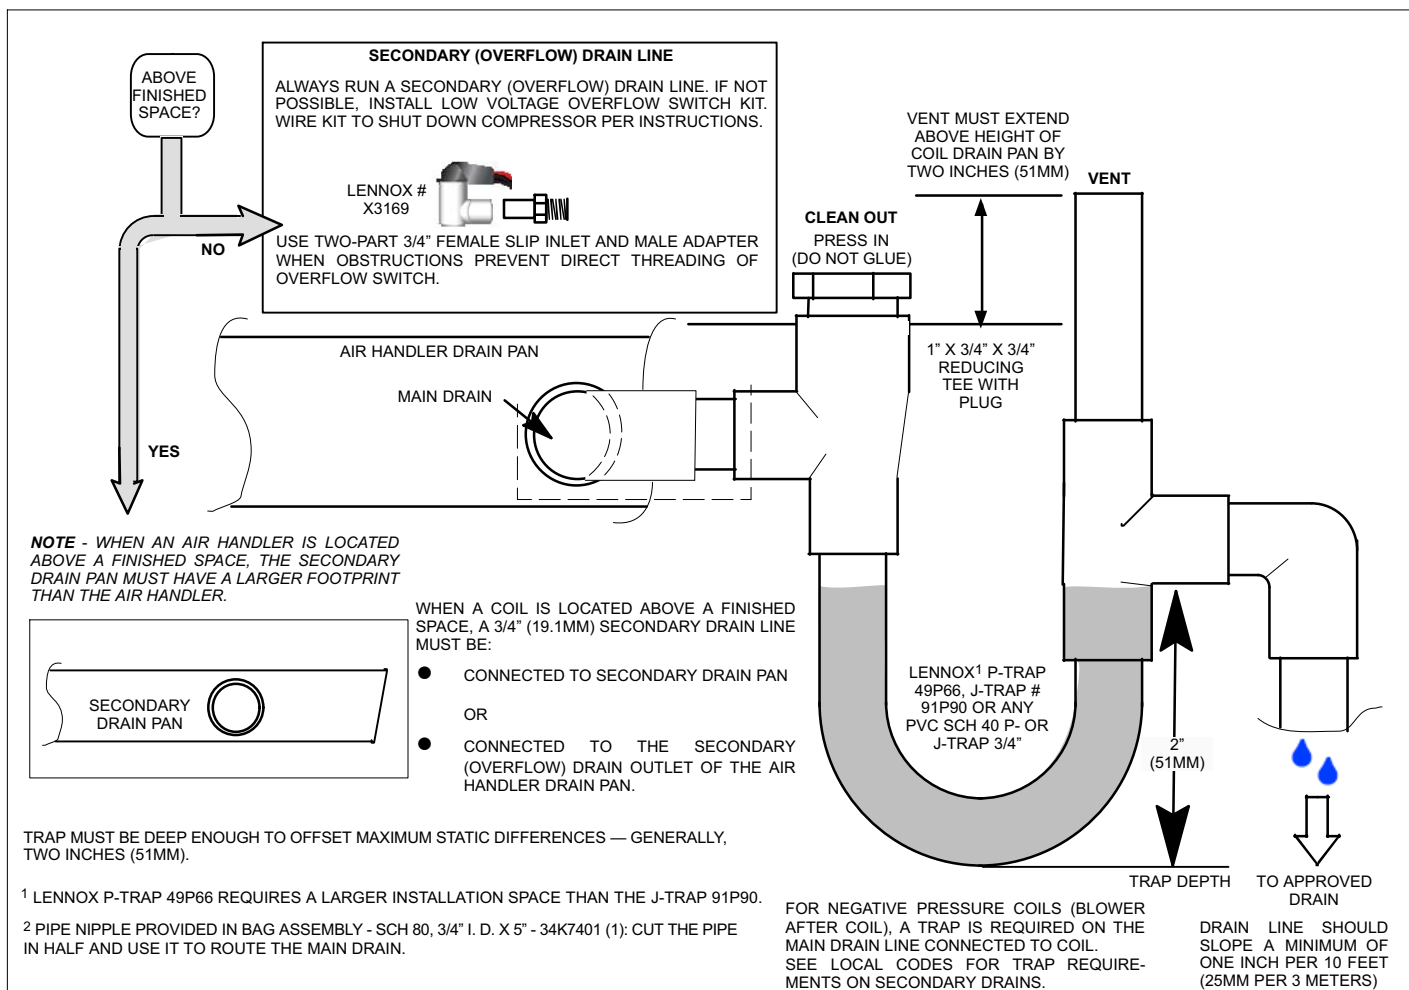

Figure 11. Typical Main and Overflow Drain
- 7 - Install a 2" trap in the main (primary) drain lines as close to the unit as practical (see figure 11). Make sure
NOTE - Horizontal runs must have an anti-siphon air vent (standpipe) installed ahead of the horizontal run. See figure 11. An extremely long horizontal run may require an oversized drain line to eliminate air traps.